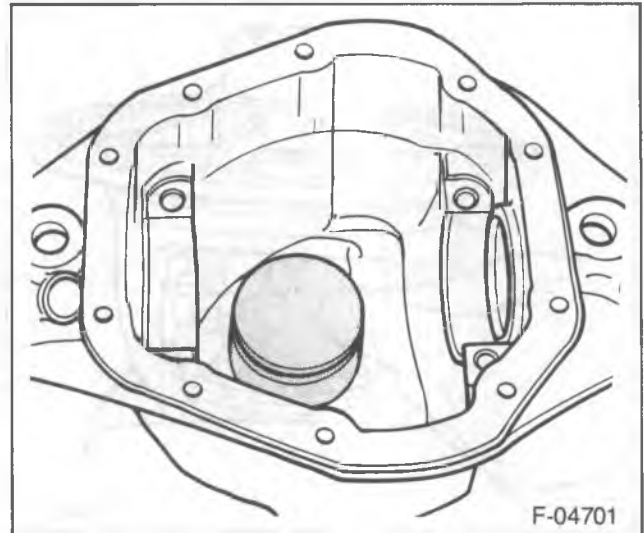

Figure 22—Master Pinion Block
2. Install D-120 to the pinion bore (figure 22).